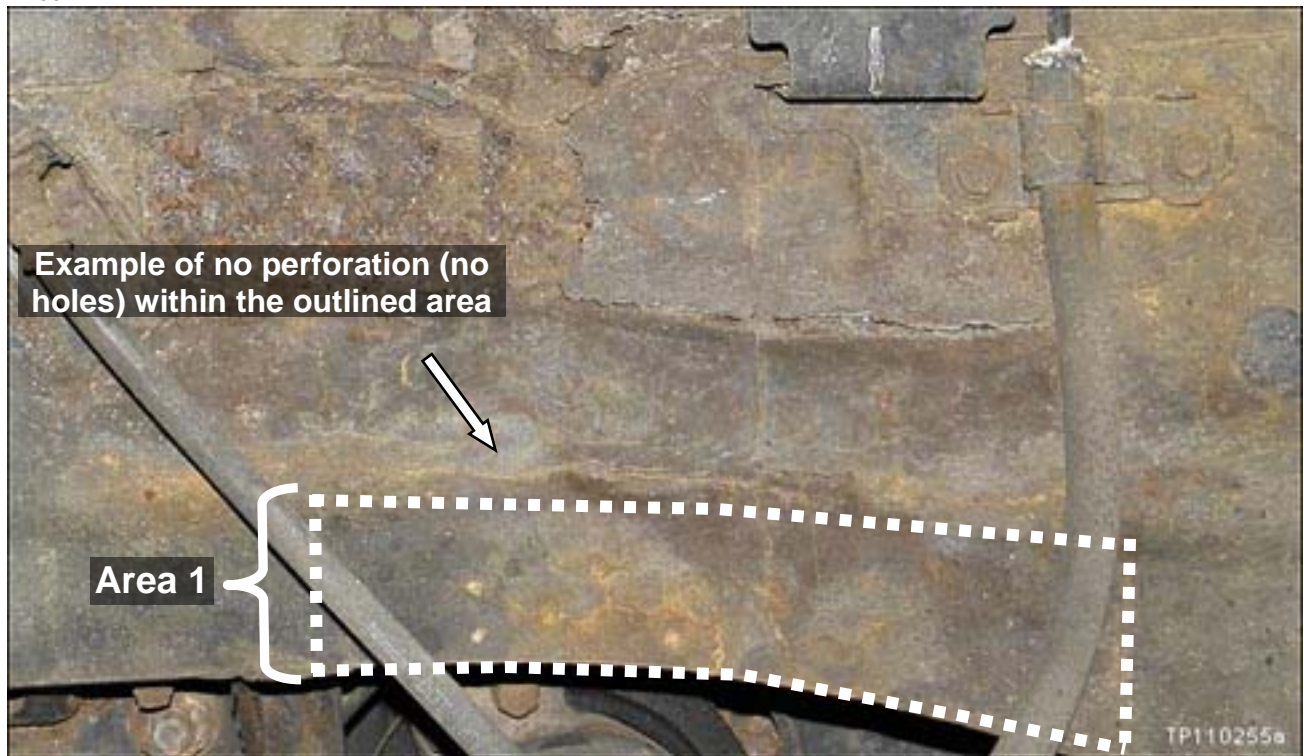

Figure 3
- The area shown in Figure 3 applies to driver side **AND** passenger side.